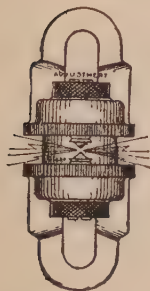

Fig. 101.—An auxiliary air gap. As usually constructed, the auxiliary air gap consists of two adjustable electrodes, set into a short piece of glass tubing.
**Ans.** An air gap placed in the secondary circuit in series with the spark plug. Its object is to prevent any leakage of current in case of defective plug insulation by preventing the flow of the secondary current until the voltage has been raised enough to suddenly break down the resistance of the auxiliary air gap, and also that of the plug. This results in a discharge, through the air gap of the plug, instead of short circuiting over the sooted surfaces of the plug insulation. The construction of an auxiliary air gap is shown in fig. 101.